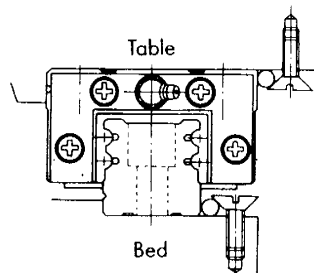

Fig. 55
- Fig. 55; This method consists of pressing a needle roller with the taper of a flat head screw. Positioning the screws is most important.